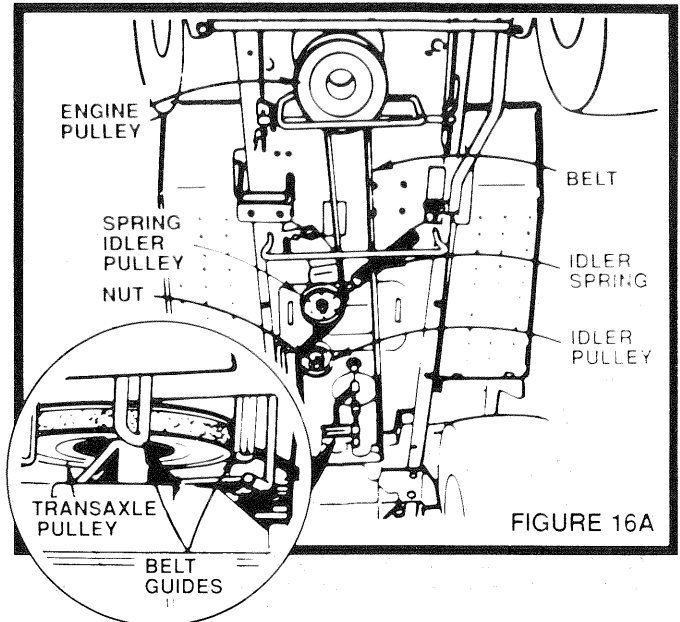

FIGURE 16A
- b. Unhook Idler Spring from Chassis (Fig. 16A).
- c. Loosen Spring Idler Pulley (Fig. 16A).
- e. Loosen Nut on two Belt Guides and rotate Belt Guides away from Pulley. (One at rear and one on right side.) (Fig. 16A - Inset.)